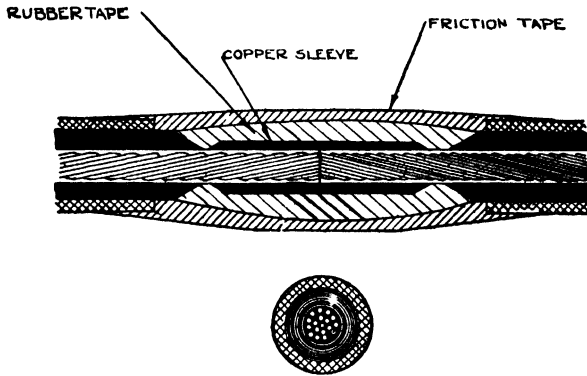

Fig. 63. Sleeve Joint in Cable
**Sleeve Joint.** A simple and easy method by which to join stranded conductors is shown in Fig. 63. This method is used principally on underground cables. The sleeves are slotted either their full length or sufficiently to allow for their being filled with solder. The cables should be cut evenly so as to butt squarely and fit snugly in the sleeve. Each cable should be stripped, thoroughly cleaned and scraped, dipped in soldering flux, and tinned. The sleeve also